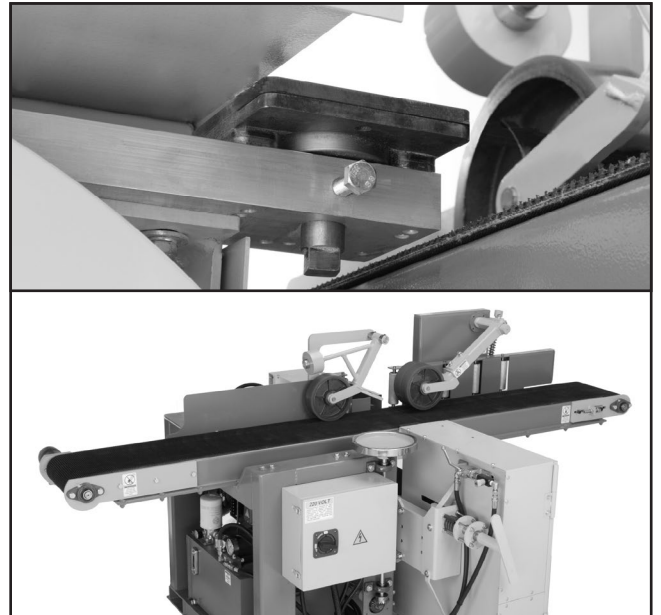

Figure 8. Conveyor belt placement.
2. Remove the blade guide (shown in the upper half of **Figure 8**) from the wheel housing.
3. Lift the conveyor belt onto the resaw body as shown in the lower half of **Figure 8**.